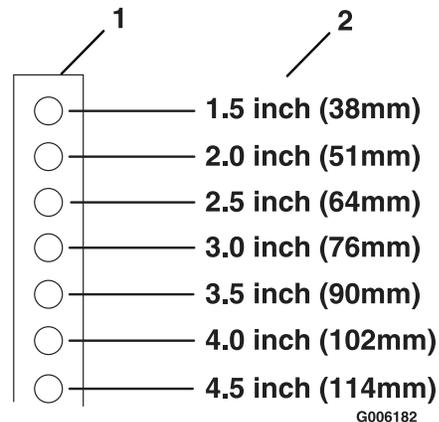

Figure 6
5. Install hairpin clips in the holes for the desired cutting height. See Figure 6.
- A. The front and rear hairpins are in the same holes with the proper spacers under the hair pins. See Figure 6.